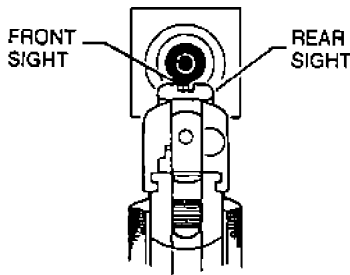

FIGURE 5—AIMING
3. Grasp pistol by stock and, with index finger resting along the outside of trigger guard, take aim. Aim by aligning target with front and rear sights. (See Figure 5)